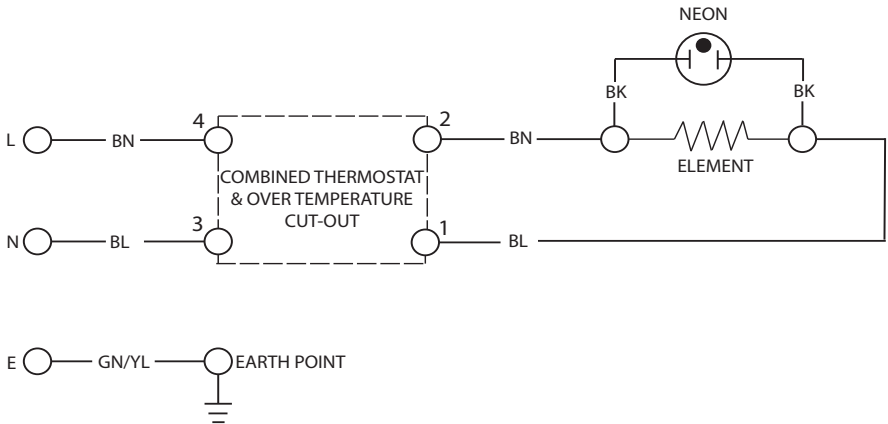

FIGURE 05: WIRING DIAGRAM
3.5.1 The unit is supplied fitted with a 0.75m 3 core 1mm2 flexible cable. The electricity supply should be fused 13 Amp and be via a double pole isolating switch with a contact separation of at least 3mm in both poles. Refer to the schematic wiring diagram Figure 05 below.
2. Thermal cut-out tripped	Check cut-out, if operated, reset and check thermostat operation. If necessary replace thermostat/thermal cut-out (see Wiring Diagram Fig.05, page 8)